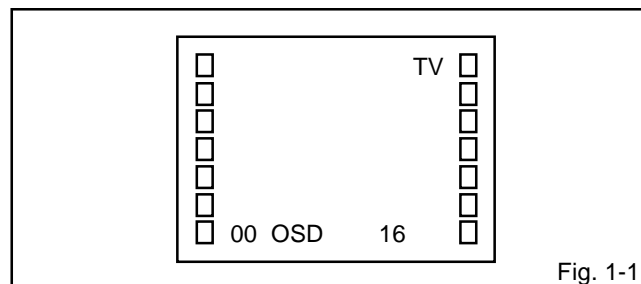

Fig. 1-1
2. Press both VOL. DOWN button on the set and the Channel button (9) on the remote control for more than 2 seconds to appear the adjustment mode on the screen as shown in Fig. 1-1.
4. Activate the adjustment mode display of **Fig. 1-1** and press the channel button **(03)** on the remote control to select "V.VCO".
3. Activate the adjustment mode display of **Fig. 1-1** and press the channel button **(02)** on the remote control to select "RF AGC".
5. Activate the adjustment mode display of **Fig. 1-1** and press the channel button **(01)** on the remote control to select "CUT OFF".
4. Activate the adjustment mode display of **Fig. 1-1** and press the channel button **(10)** on the remote control to select "R CUT OFF".
3. Activate the adjustment mode display of **Fig. 1-1** and press the channel button **(05)** on the remote control to select "H PHAS".
3. Activate the adjustment mode display of **Fig. 1-1** and press the channel button **(07)** on the remote control to select "V SFT".
3. Activate the adjustment mode display of **Fig. 1-1** and press the channel button **(06)** on the remote control to select "V SIZE".